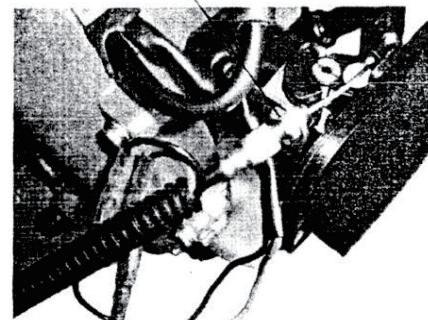

Figure 1
1. Loosen the throttle cable nut at fan cover as shown in Figure 1.